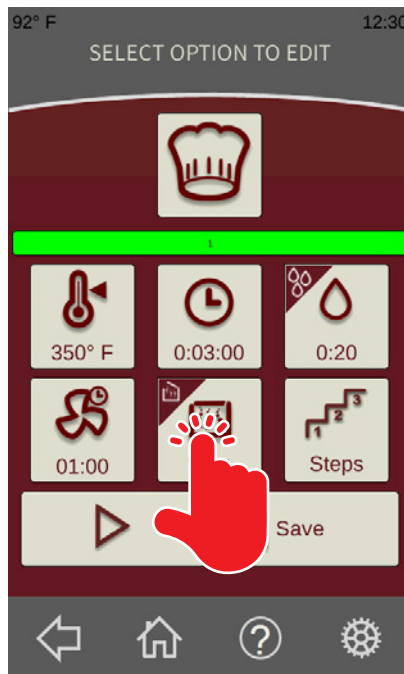

Fig. 23
- From the **Standard Recipe Run Screen** (Fig. 23), touch the Vent button to select vent open or vent closed throughout the step.